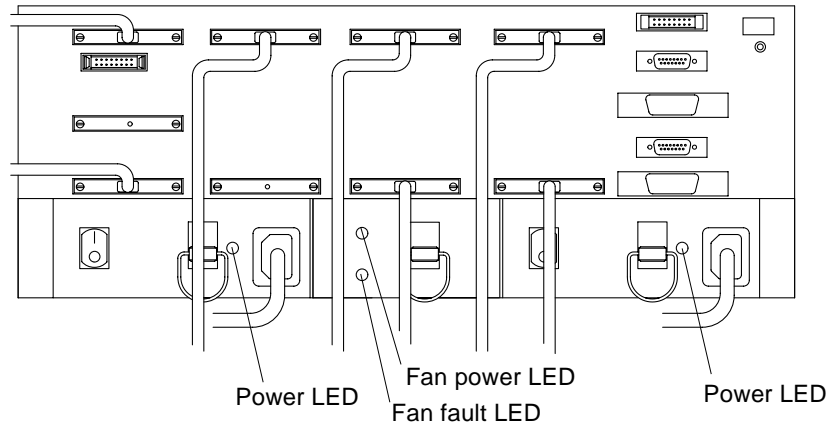
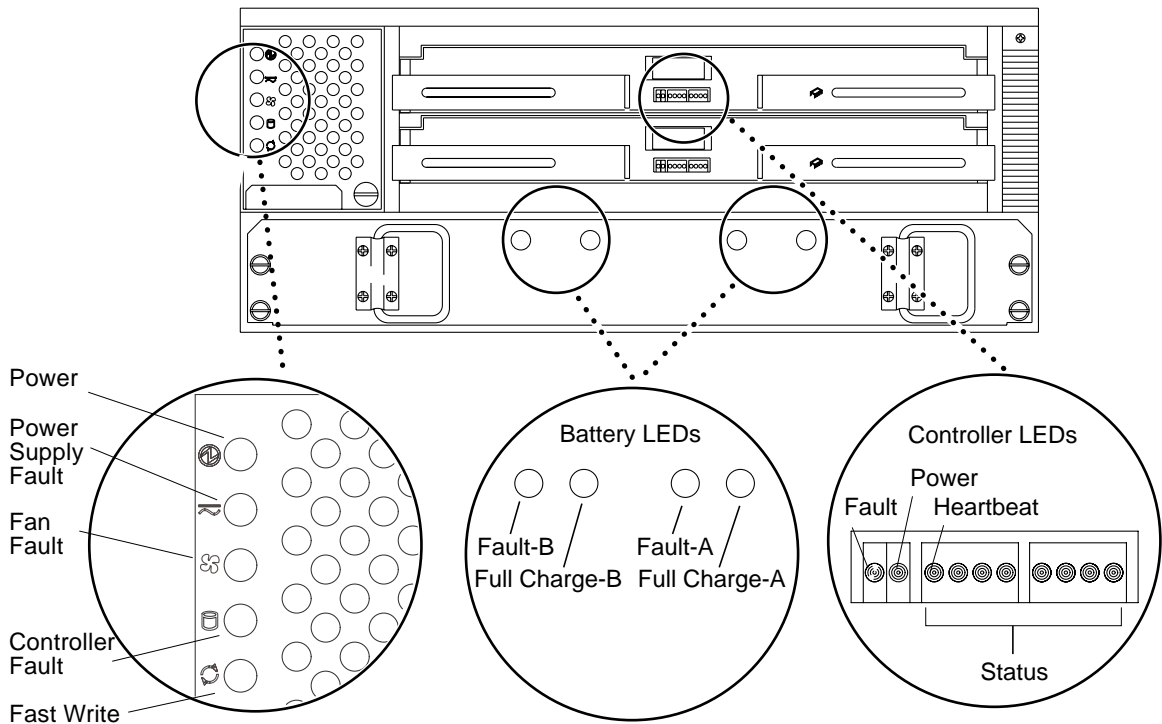

FIGURE 1-20 LEDs on the Back of the Controller Module
FIGURE 1-21 LEDs on Front of Controller Module
- 4. Check the LEDs on the front and back of the controller module and the drive trays for faults (FIGURE 1-20 and FIGURE 1-21).**